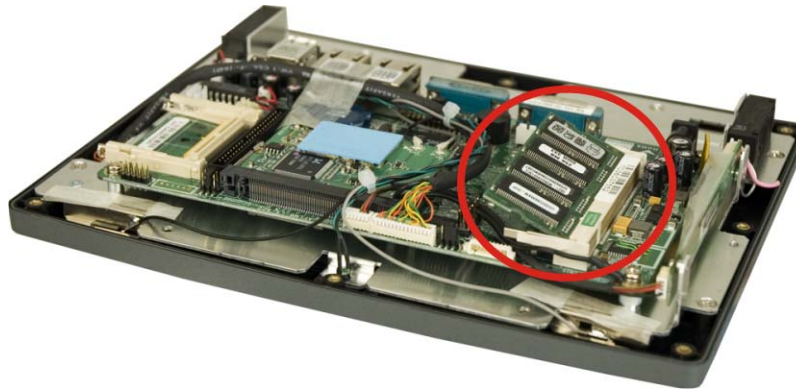

Figure 4-12: SO-DIMM Socket Location
Step 3: Locate the DDR memory module on the motherboard of the flat panel PC (**Figure 4-12**).